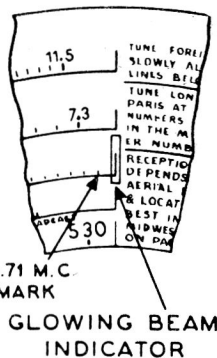

Fig. 8. Dial Calibration
**EQUIPMENT REQUIRED:** (1) Signal Generator, having a fundamental frequency range covering the tuning and intermediate frequencies of the receiver. **Philco Model 088 Signal Generator** which has a fundamental frequency range from 110 to 20,000 K.C. is the correct instrument for this purpose; (2) Output Meter, **Philco Model 025A Circuit Tester** incorporates a sensitive output meter and is recommended; (3) **Philco Fibre Handle Screw Driver**, Part No. 27-7059 and **Fibre Wrench**, Part No. 3164.
1. Loosen the set screws on the shaft coupling of the tuning condenser. Then turn the tuning condenser until the plates are in the maximum capacity position. Now turn the dial until the glowing beam indicator is on the Index Line at the low frequency end of range 3. (See Fig. 8). With the dial and tuning condenser in this position tighten set screws.
2. Turn the tuning condenser control until the indicator is on the 4.71 M.C. mark of range 3. (See Fig. 8.)